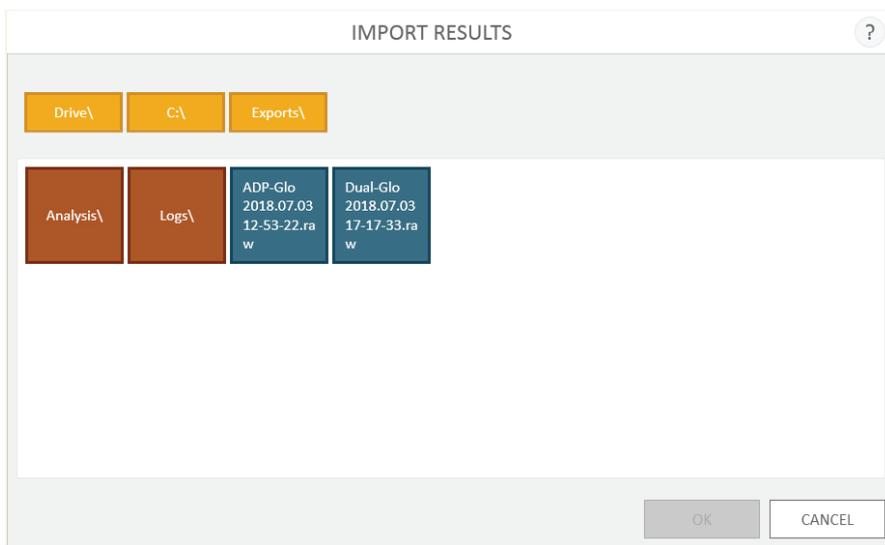

Figure 57. Importing Results, Templates or Analyses. Use the file browser screen to browse to the location of the desired import file.
- c. Touch the **Import** button near the bottom left side of the screen to open the 'Import Results', Import Templates' or 'Import Analyses' screen, depending on the current list being viewed (Figure 57).